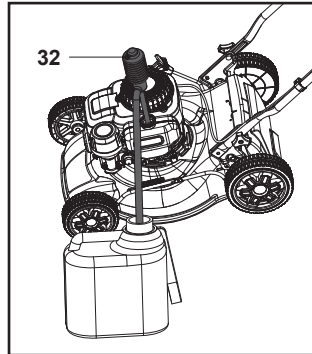

Fig. 21
1. The fuel must be drained out into a container after each use. Place the mower on stable ground and use the supplied syphon (32) to drain out all the petrol from fuel tank (Fig. 21).